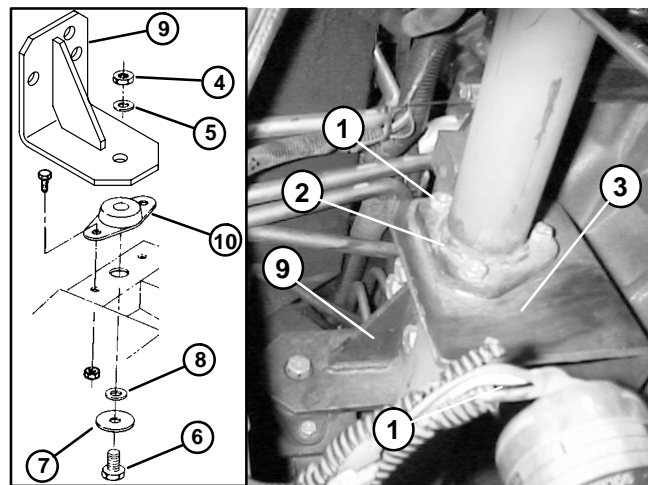

Figure 26
13. Remove three lock nuts and cap screws securing the upper exhaust tube to the exhaust bracket (Fig. 26).
14. Remove hex nut, spring washer, cap screw, and flat washers securing both front brackets to the engine mounts (Fig. 26).
17. Remove engine slowly from the machine. Save gasket for exhaust tube (Fig. 26).
B. Place gasket onto exhaust bracket to receive exhaust tube (Fig. 26).
2. Secure both front brackets to the engine mounts with cap screw, flat washers, spring washer, and hex nut. Torque cap screw and hex nut from 59 to 73 ft-lb (8.2 to 10.1 kg-m) (Fig. 26).
4. Secure exhaust tube and gasket to the exhaust bracket with three cap screws and lock nuts (Fig. 26).